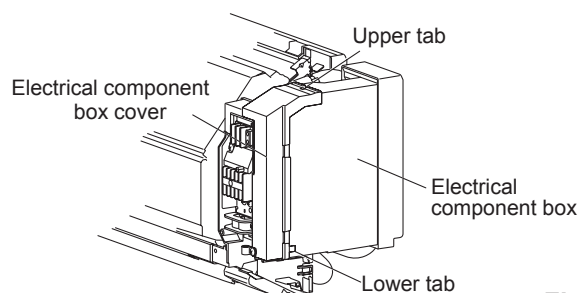

Fig. 7-6
- Remove the electrical component box cover. (Fig.7-6)
- Hook the upper tab of the electrical component box cover to the electrical component box first, and then fit the lower tab. (Figs.7-6, 8)